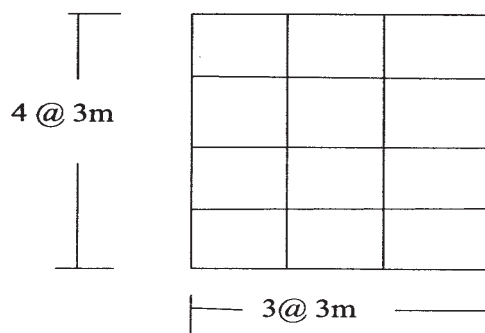

Figure 6.1
**Q6)** Calculate the distribution of base shear at each floor level as per seismic coefficient method for the OMRF without brick infill building shown in Fig.6.1. The building is located in Zone III. The frames are spaced at 4m c/c. Assume soil of Type II. Assume Three storeyed building with D.L. =  $5\text{kN/m}^2$ , L.L. =  $4\text{kN/m}^2$  on each floor and  $1.5\text{kN/m}^2$  on roof. Storey height = 3m. [18]